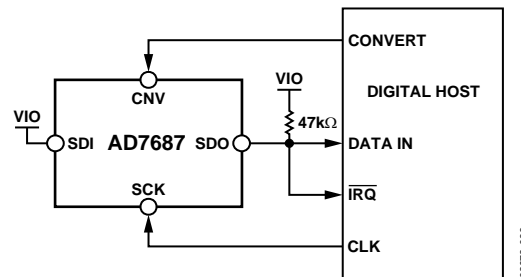
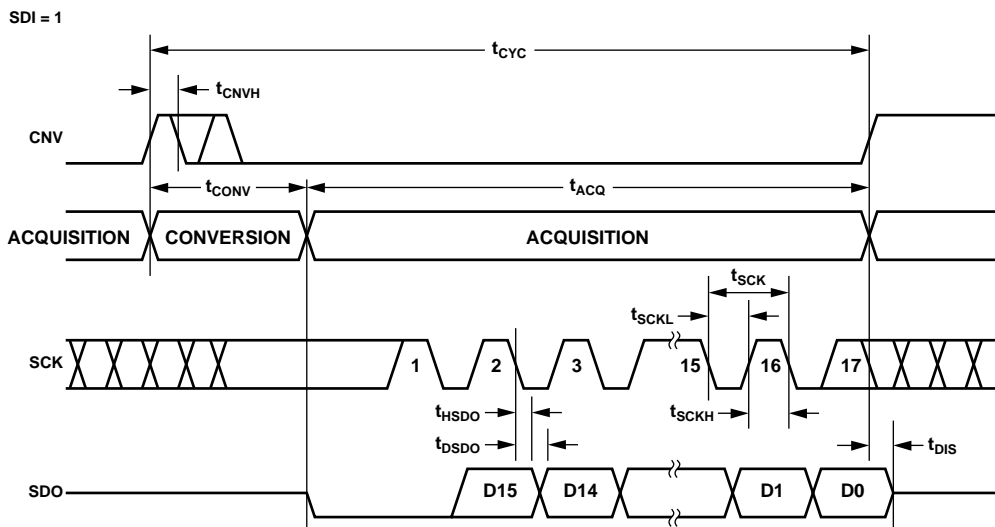
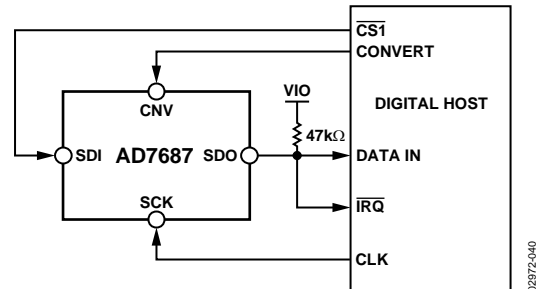
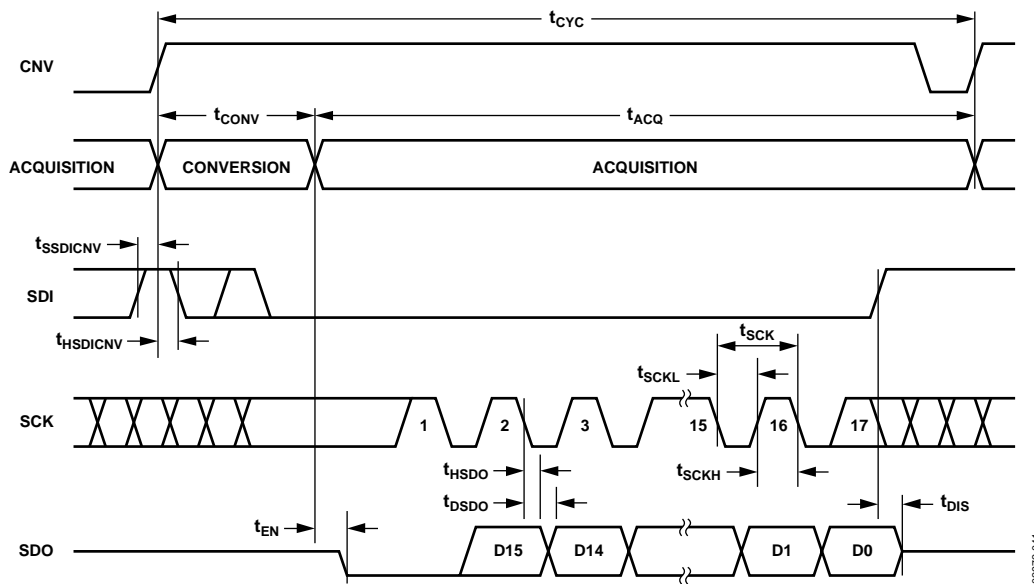

Figure 36. $\overline{\text{CS}}$ Mode, 3-Wire with BUSY Indicator Connection Diagram (SDI High)
Figure 37. $\overline{\text{CS}}$ Mode, 3-Wire with BUSY Indicator Serial Interface Timing (SDI High)
Figure 40. $\overline{\text{CS}}$ Mode, 4-Wire with BUSY Indicator Connection Diagram
Figure 41. $\overline{\text{CS}}$ Mode, 4-Wire with BUSY Indicator Serial Interface Timing
- In the $\overline{\text{CS}}$ mode if $\overline{\text{CNV}}$ or SDI is low when the ADC conversion ends (see Figure 37 and Figure 41).
Figure 36 shows the connection diagram and Figure 37 gives the corresponding timing.
Figure 40 shows the connection diagram and Figure 41 gives the corresponding timing.